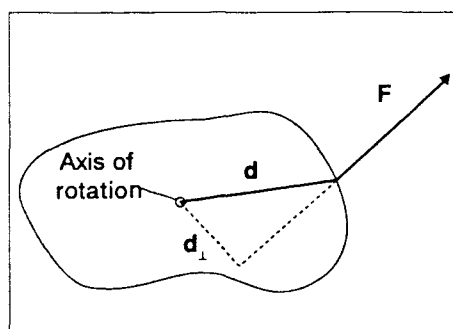

Figure 2.2 Torque Diagram
- ① Is it reasonable to assume that your measured values of α are the same as the instantaneous angular acceleration within each counting interval? Explain your answer. (Hint: Is the angular acceleration constant?)
- ② Can you determine a mathematical relationship between α and the independent variables r , m , and M ?
- ③ In rotational dynamics, there is a quantity called torque that is analogous to force in linear dynamics. Figure 2.2 is a diagram showing how this quantity is measured. If a force (F) is applied to an object at a distance (d) from the axis of rotation of the object, then the torque can be calculated by the equation: $\tau = Fd_{\perp}$; where d_{\perp} is the component of the vector d that is perpendicular to the direction of the applied force. Discuss how the concept of torque relates to your results.